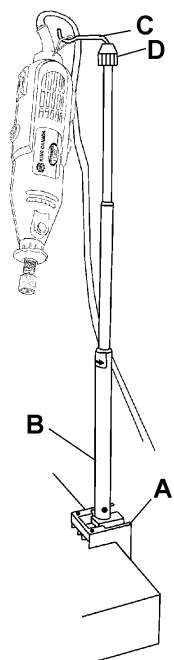

Figure 4
Fix the clamping system (A) Fig.4 to your workbench, then screw in the stand shaft (B) into the clamping system and secure. The height of the stand is adjustable, loosen the top tube of the stand by turning it counterclockwise. Draw the tube out to its maximum or desired height and secure it by turning the tube clockwise. The height of the suspension bracket (C) is also adjustable by loosening the black knob (D). After adjusting the suspension bracket to the desired height and direction, retighten the black knob.